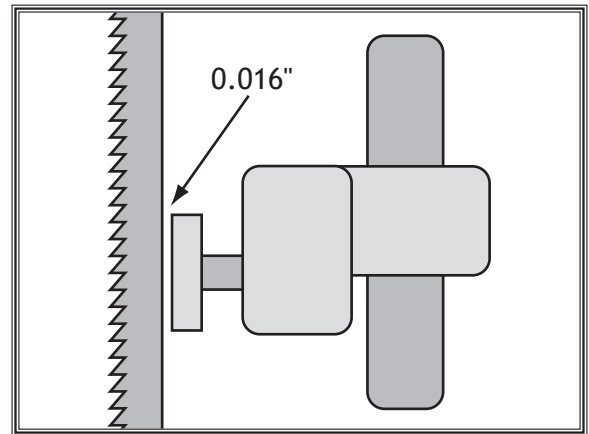

Figure 29. Support bearing positioned 0.016" away from the back of the blade.
8. Use the knurled knob to position the support bearing approximately 0.016" away from the back of the blade, as illustrated in **Figure 29**.